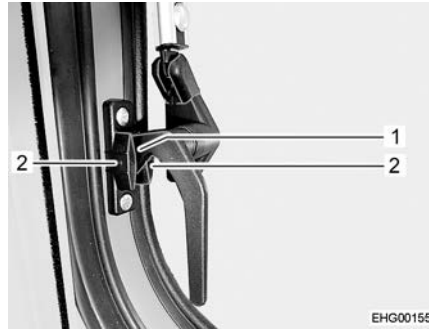

Fig. 64 Catch lever, on the side ("continuous ventilation" position)
- Turn the catch levers on the side a quarter turn downwards. While doing so, drive locking catch (Fig. 64,1) in between the two halves of the locking block.